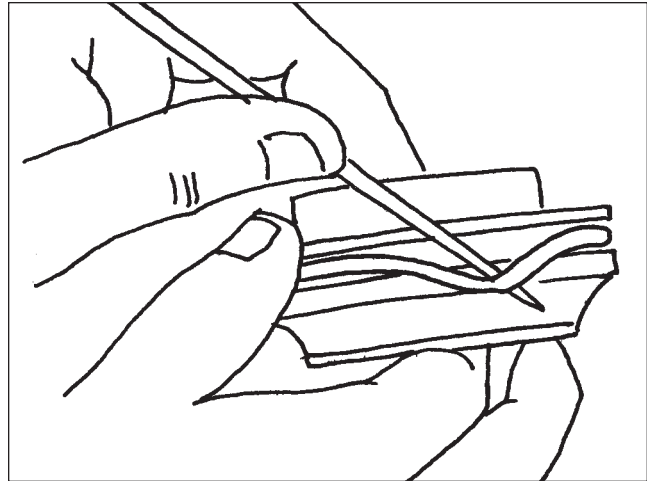

Figure 92
9. Remove and discard the cover O-ring and sector shaft seal (Figure) or the 3-piece seal assembly (Figure 92). (if equipped).